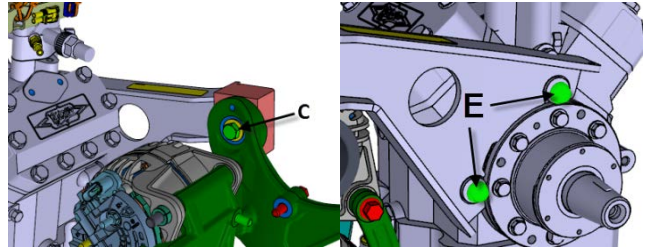

FIGURE 29
38. Tighten bolts **C** and bolt **E** (refer to FIGURE 29).